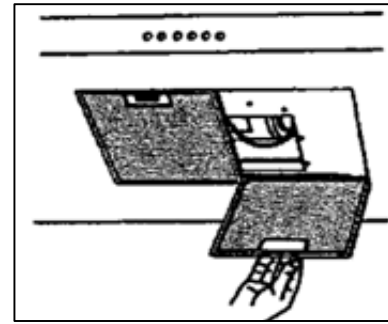
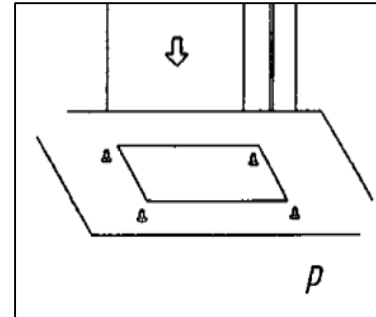

Figure15
Figure 16
- If the hood is supplied with a lower chimney piece that must be fixed to the hood body with screws, remove the anti-grease filters from the hood by acting on the relevant handles (Figure15). Then screw the lower chimney piece pipe to the inside of the hood, using screws P (Figure 16).Relocate the filters in their seat.